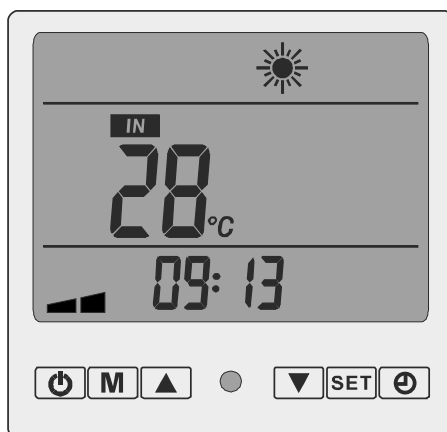

Fig.2
2.  Button is to switch between operation mode and standby mode, operation mode as shown in Fig.2. The temperature showed under "IN" is the temperature of hot water in water tank.